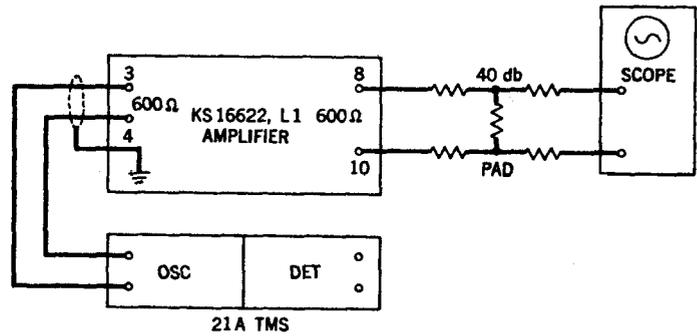

Fig. 4 -- Test Setup for Observing Distortion
7.01 The distortion of the amplifier should be observed in accordance with the test setup shown in Fig. 4. Chart III outlines the step procedure for this test.
6	Without changing settings of OSC, connect circuit as shown in Fig. 4.